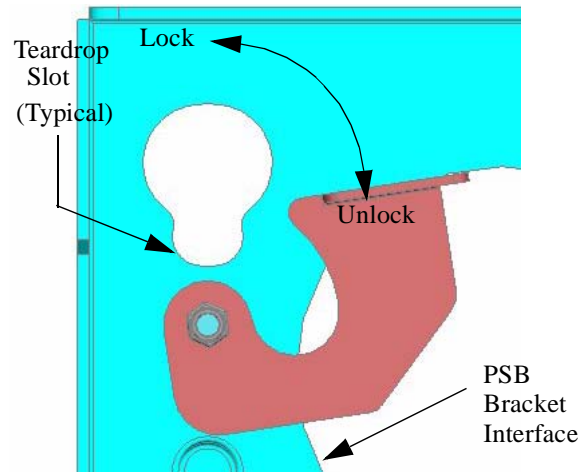

Figure 6. Locking Device
1. Make sure power is not supplied (turned off) to the display and the locking device is in the unlocked (down) position (see Figure 6) before attempting to mount the display.
4. Secure the mounting bracket to the mount by completely engaging the locking device (see Figure 6).
2. Release the locking device (see Figure 6).